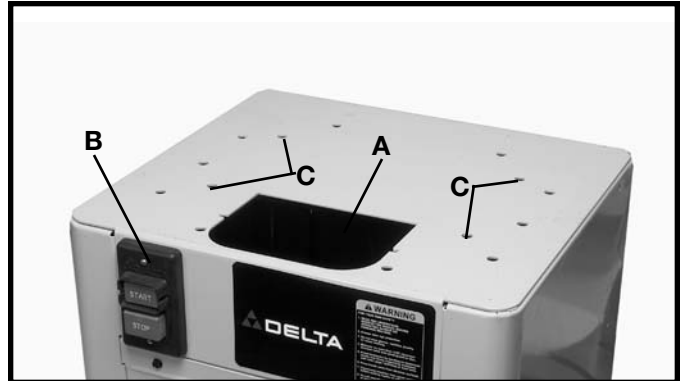
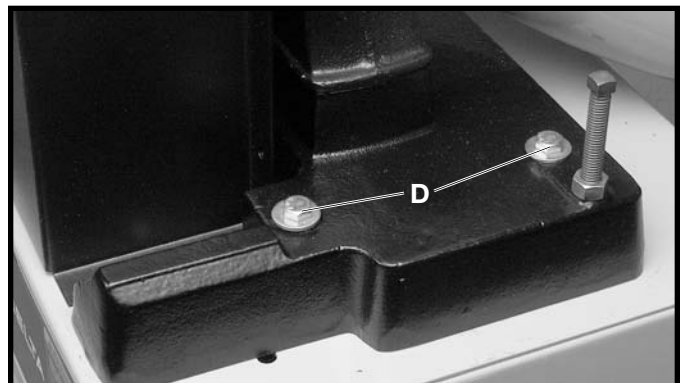

Fig. 4
Fig. 5
Place the machine on the stand with the arbor pulley over the opening (A) Fig. 4, on the top of the stand. The drive belt is shipped on the arbor pulley of the machine and must be inserted down through the opening (A). The disc end of the machine is to be positioned on the same end of the stand that the switch (B) Fig. 4, is located. Line up the four holes on the base of the machine with the four holes (C) in the top of the stand. Place a 3/8" flat washer on a 3/8"-16x3" hex head screw (D) Fig. 5, (two are shown), insert screw through the hole in the base of the machine and the hole in the top of the stand. Thread a 3/8"-16 hex nut onto the screw and tighten securely. Repeat this process for the three remaining holes.